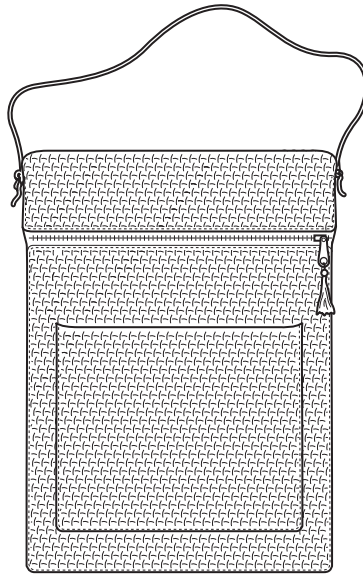

Fig. 6.
- 6 Fig. 6 shows a bag made using a decorative weave fabric (e.g. jacquard).
- (a) (i) Name **two** pre-manufactured standard components used to make the bag shown in Fig. 6. [2]
- (b) Describe the order of manufacture of the bag shown in Fig. 6. Use sketches where appropriate. [8]